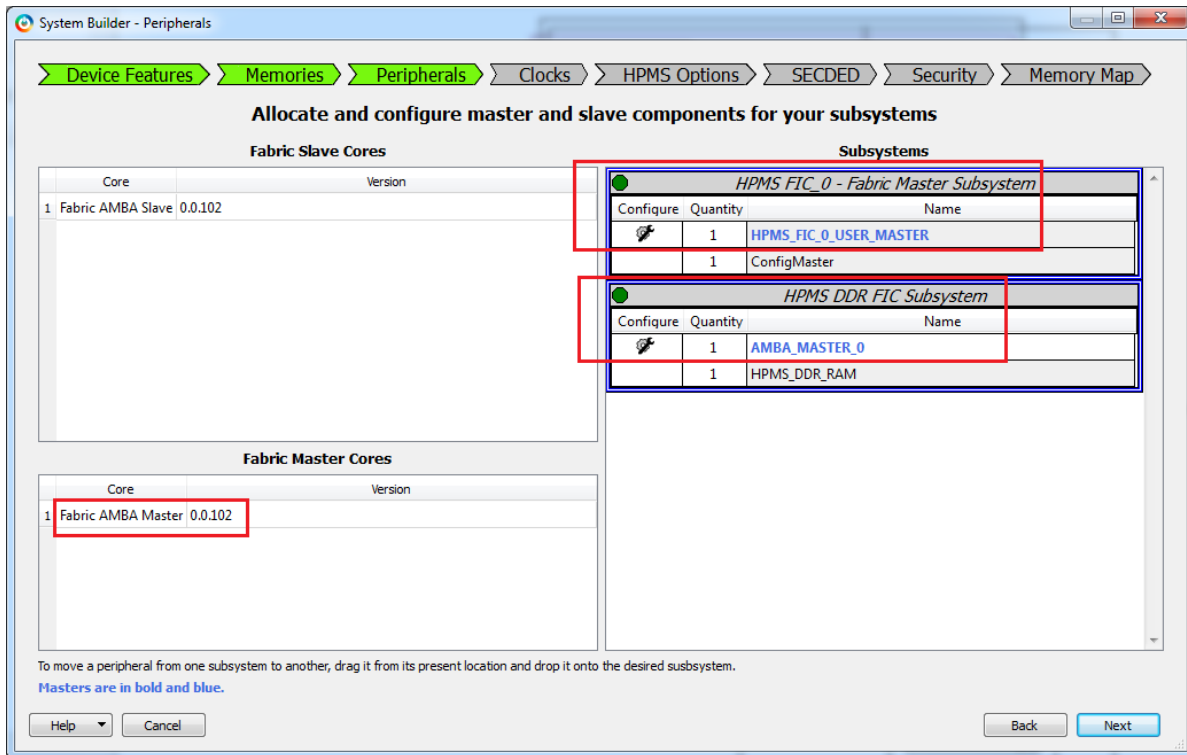

Figure 6 • System Builder - Peripherals
7. Click the **Peripherals** tab. The **System Builder-Peripherals** window is displayed, as shown in Figure 6.